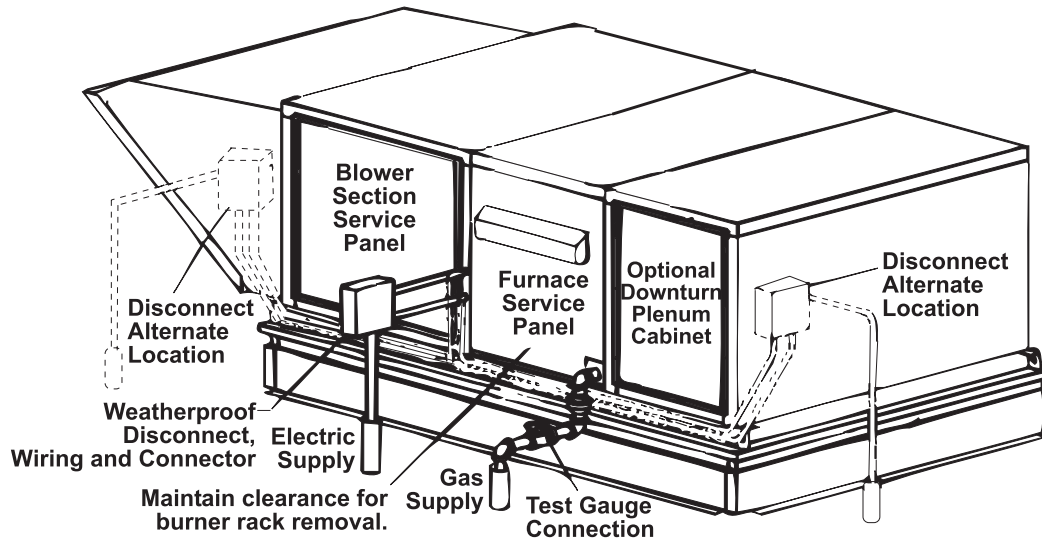

Figure 11. Disconnect Switch Locations
- **Disconnect switch:** A disconnect switch is a required part of this installation. Switches are available as options or parts or may be supplied locally. When ordered as an optional component, the disconnect switch may be factory installed or shipped separately to be field-installed. The disconnect switch may be fusible or non-fusible. When providing or replacing fuses in a fusible disconnect switch, use dual element time delay fuses and size according to $1.25 \times$ maximum total input amps. When installing, ensure that the conduit and switch housing are clear of furnace panels and inspection plates. Allow at least 4 feet (1.2 meters) of service room between the switch and removable panels (see Figure 11). Refer to Table 8 for field-supplied wiring sizes—from disconnect to electrical box—for connection to the motor contactor or starter.